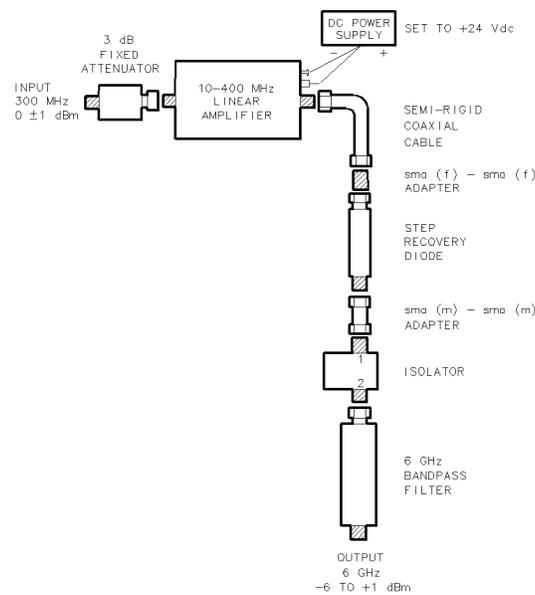

Figure 5-2. 300 MHz Up-Converter Assembly Diagram
1. Assemble the components as shown in Figure 5-2.